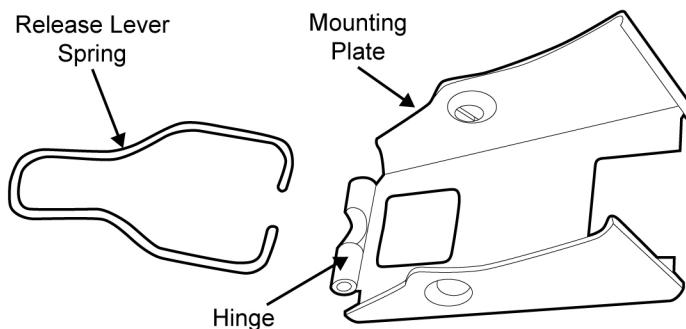

Figure 52. Installing the Release Lever Spring.
b. Insert the ends of the release lever spring into the hinge on the mounting plate. Refer to Figure 52.